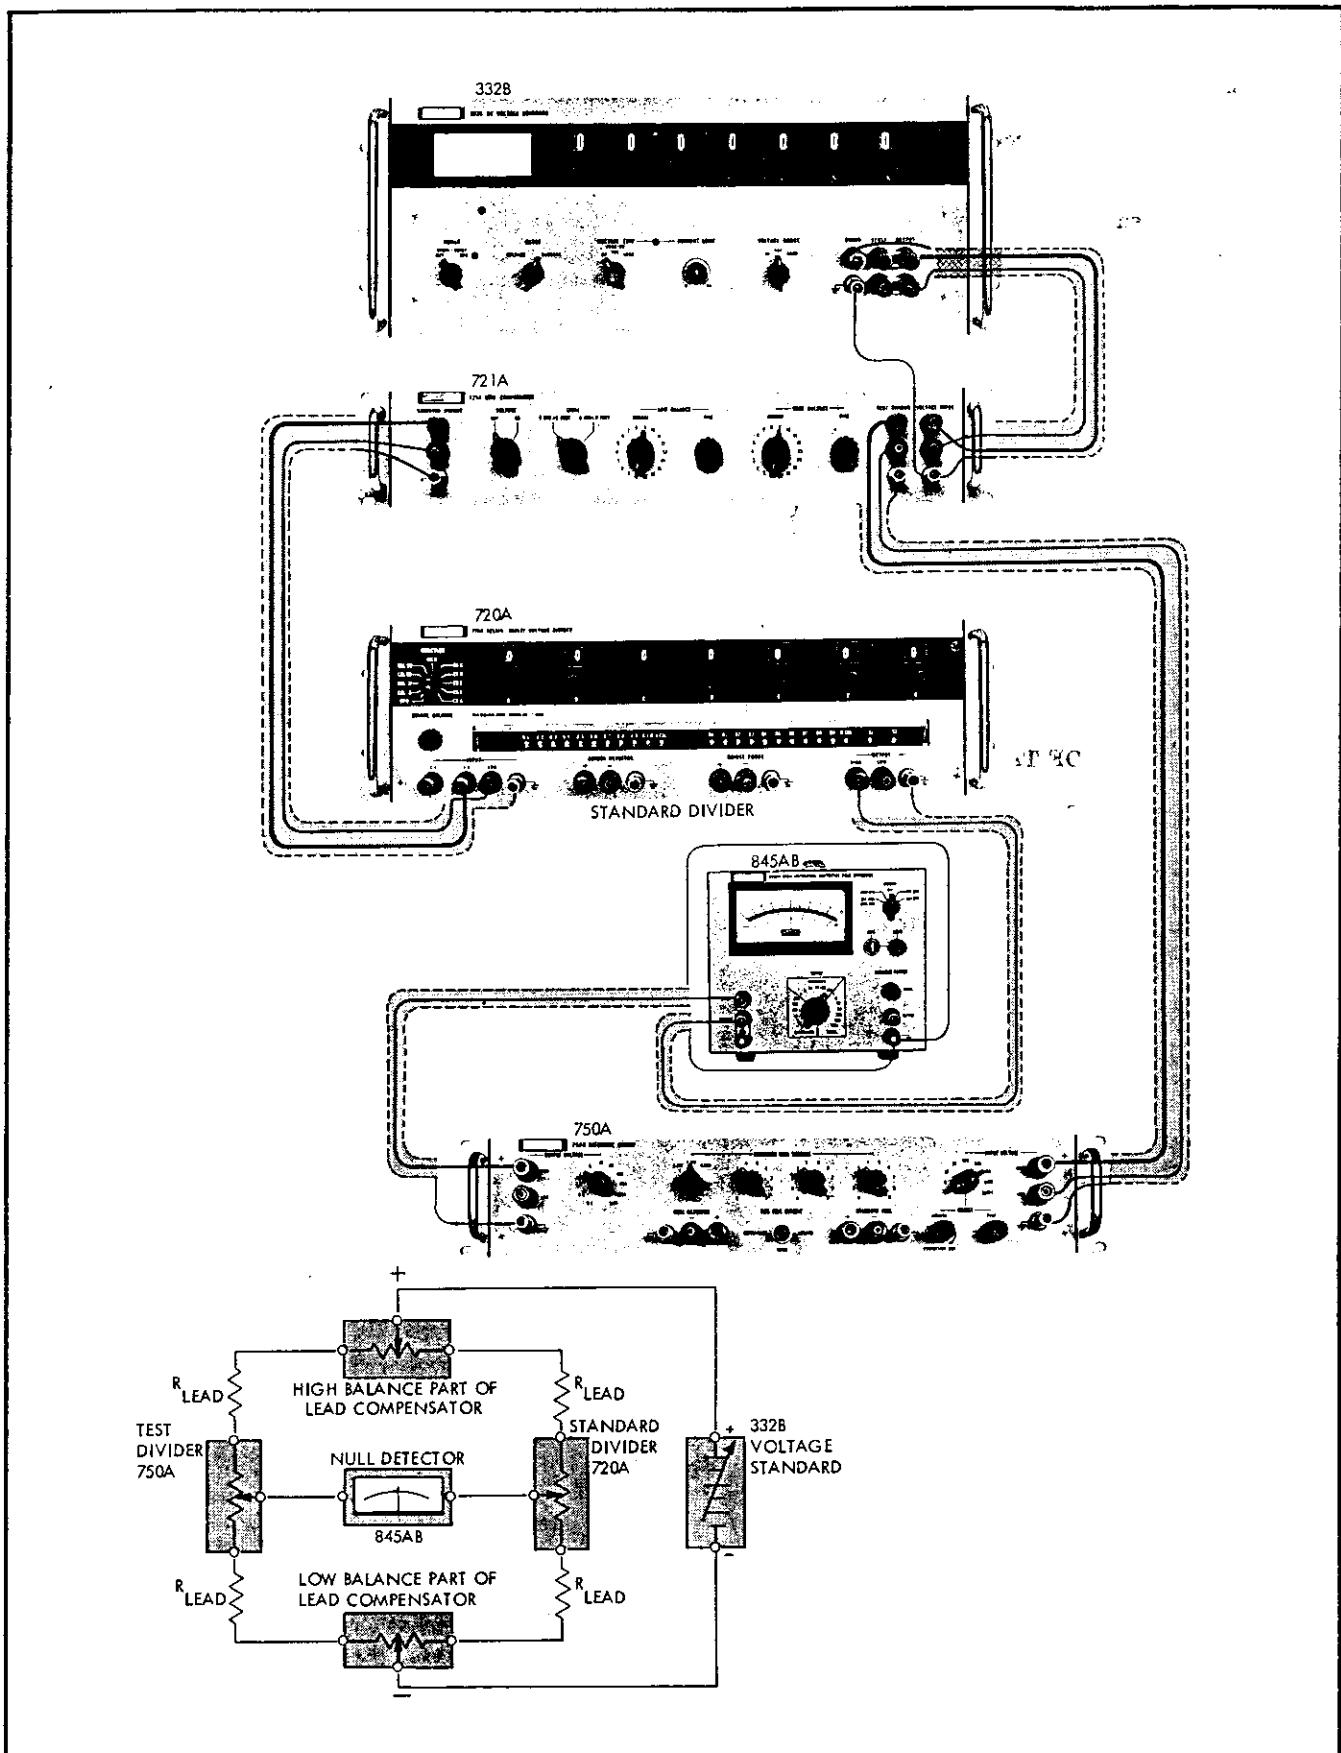

Figure 4-4. EQUIPMENT CONNECTIONS FOR CALIBRATION
- a. Connect the test equipment as shown in Figure 4-4. Use the 1.1 binding post on the standard divider (Model 720A).
- (1) Set the standard divider to 1.09999X.
- (2) Set the Model 750A INPUT VOLTAGE switch and the OUTPUT VOLTAGE switch to 1.1.
- (3) Set the voltage source to 10.99999X volts.
- (4) Set the lead compensator (Model 721A) to R STD > R TEST.